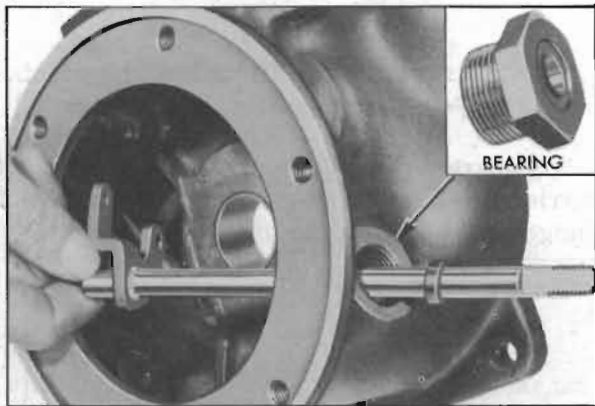

Figure 4-119—Removing Valve Operating Cross Shaft
3. Remove cross shaft bearing, using a box wrench; a socket which does not fully engage bearing, or an end wrench will distort the bearing. Remove the cross shaft. See figure 4-119.